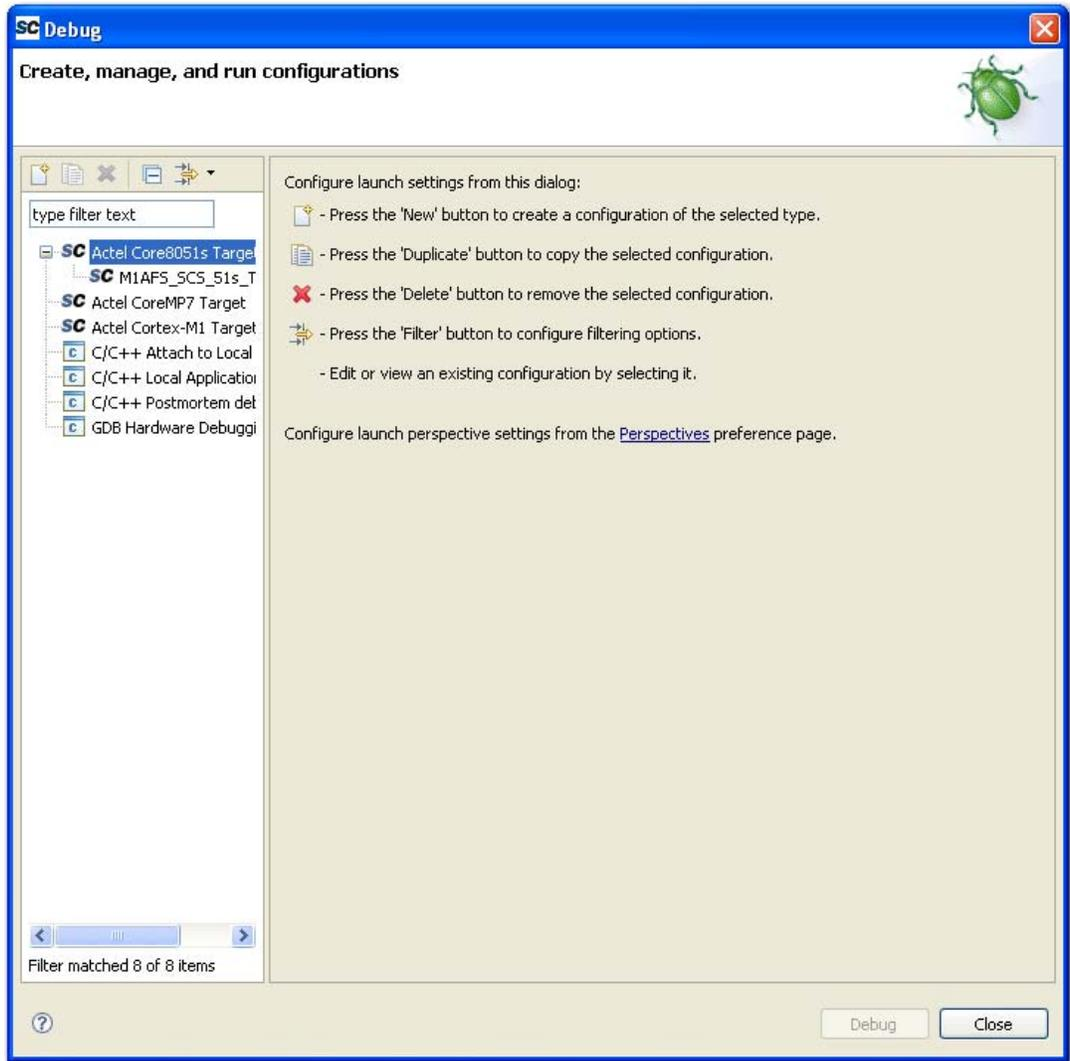

Figure 3-4 · Selecting the Debug Target
- Right-click on the relevant target (Actel Core8051s Target) and choose **New** (Figure 3-4). SoftConsole will automatically configure the debug utility and open the Debug window. Click the **Debug** button. The Debug window will close.